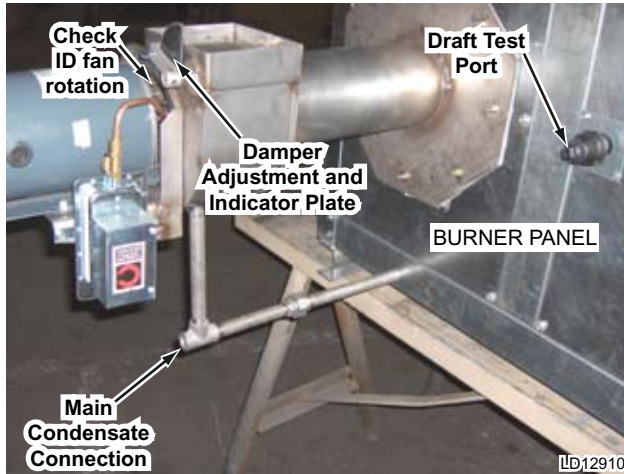

FIG. 3-14 – SET ID FAN DAMPER
7. The flue (stack) damper is located at the discharge of the ID blower and closed for shipping. Release the locking mechanism and set the damper to match the position indicated by the scribed markings. Lock in place (see Fig. 3-14).
12. Connect a manometer or other suitable device to the Heat Exchanger Draft Port located on the side of the unit near the burner. The expected draft should read slightly negative – about -.03" WC. The draft port is typically made of 3/4" steel pipe and may be plugged. Remove plug and add a small stop valve and a nipple for a rubber tube (see Fig. 3-14 & 3-16).